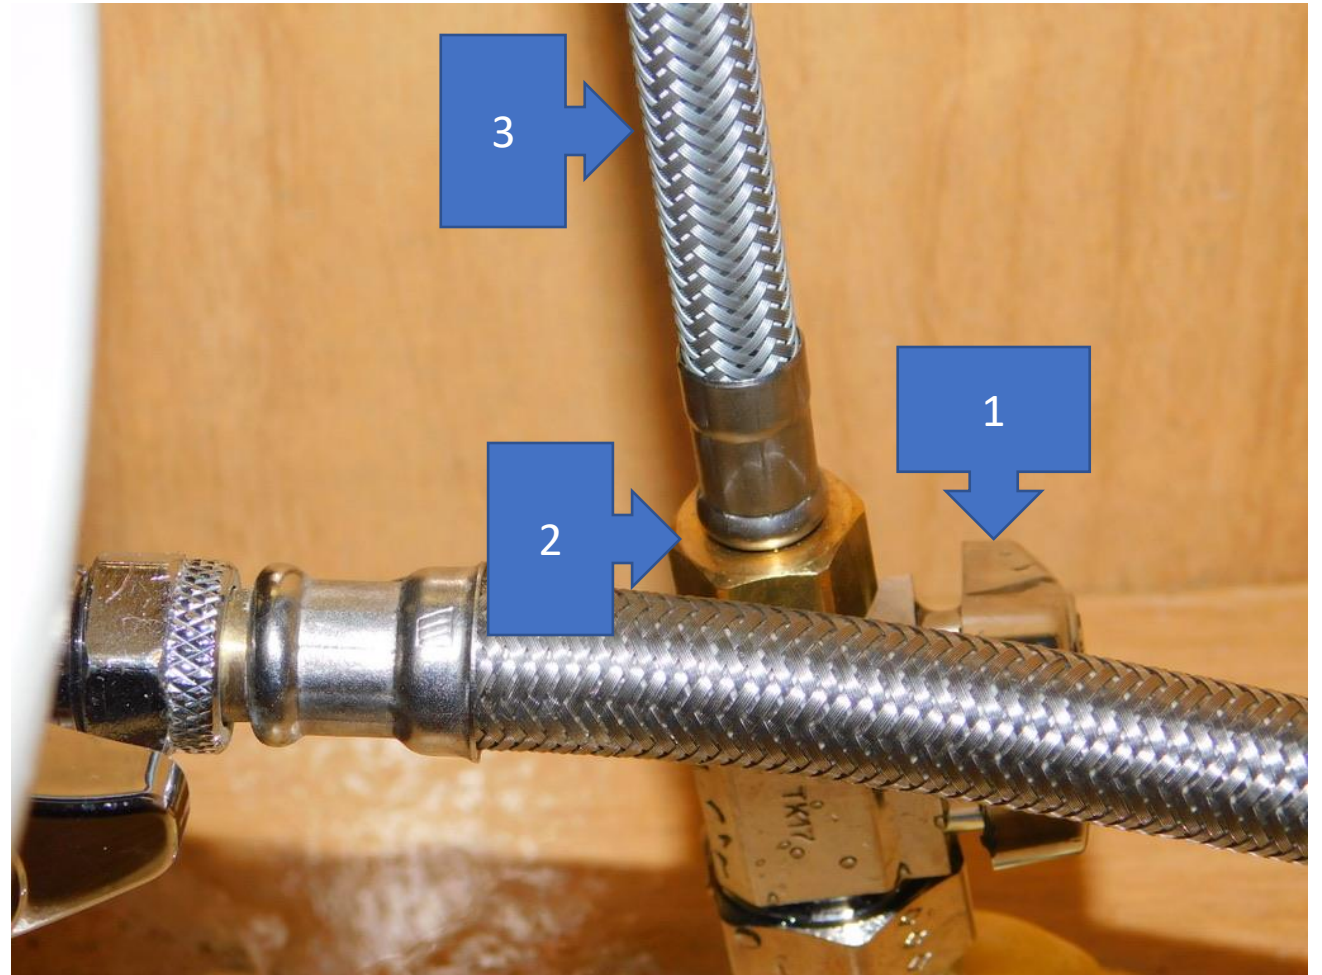

Figure 2
- 3) After shutting off the cold water shut-off valve, **(Figure 2, #1)**, open the cold water on your sink faucet to remove excess pressure built up in the line to minimize water spillage during the rest of installation process.
- 1) 2.) Disconnect the nut on the cold-water side output of the cold water shut-off valve, (usually on top of the shut-off valve). **(See Figures 2 & 3 of instruction pictures)**